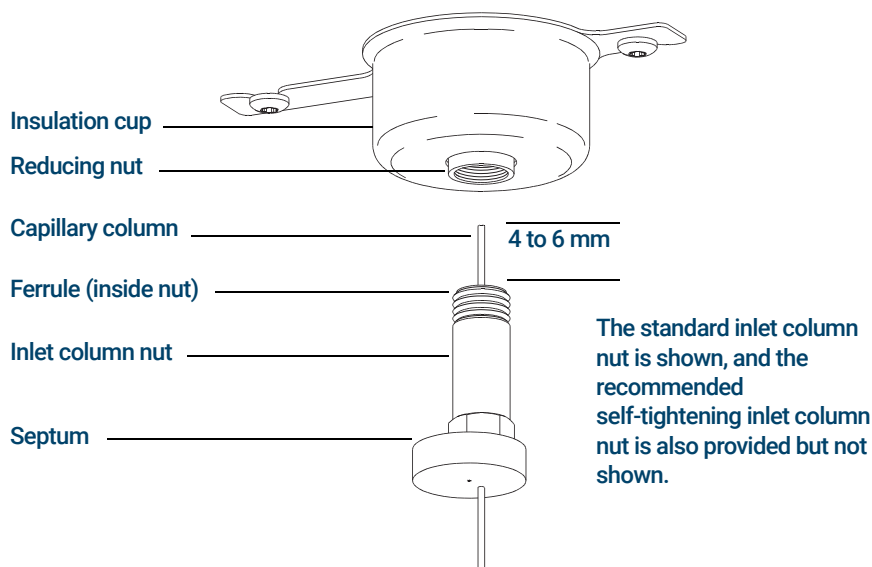

Figure 3. Installing a capillary column for a split/splitless inlet
- Position the septum under the column nut so that the column extends 4 to 6 mm past the end of the ferrule. (See **Figure 3**, "Installing a capillary column for a split/splitless inlet," on page 28.)